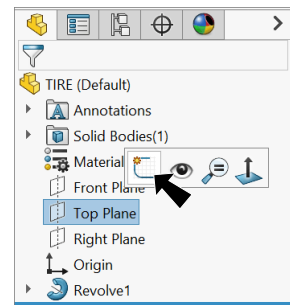

Fig. 11
Step 1. Click **Top Plane**  in the Feature Manager and click **Sketch**  on the context toolbar, **Fig. 11**.